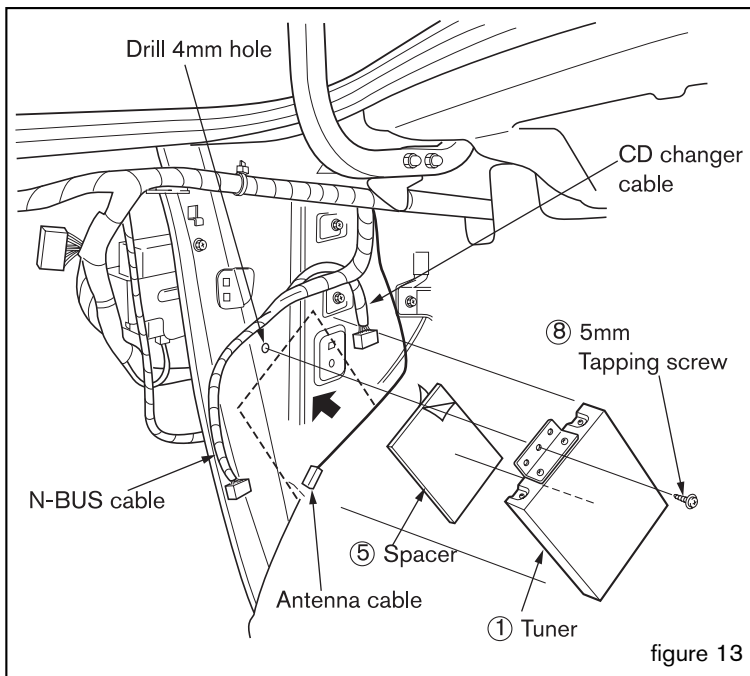

figure 13
- (7) Attach tuner to trunk panel with bottom of tuner sitting on top of flat wheelwell and left edge of tuner 45-50mm to the edge of trunk panel as shown in figure 13.